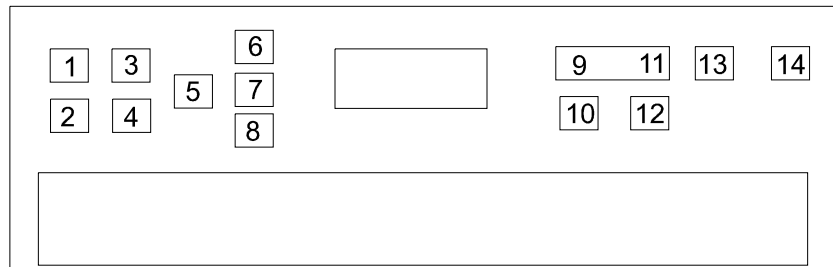

Figure 7 - Examples of Switch Self Test Key Press Order
7. TEST SWITCHES - After initiating this test, each front panel button must be pressed in the correct sequence. This ensures that each button is not only functional, but it also checks for key debounce errors (i.e. the unit "sees" the key pressed several times even though it was only pressed once). The sequence starts at the rearmost left hand button continues forward, then to the right (See Figure 7 for an example).